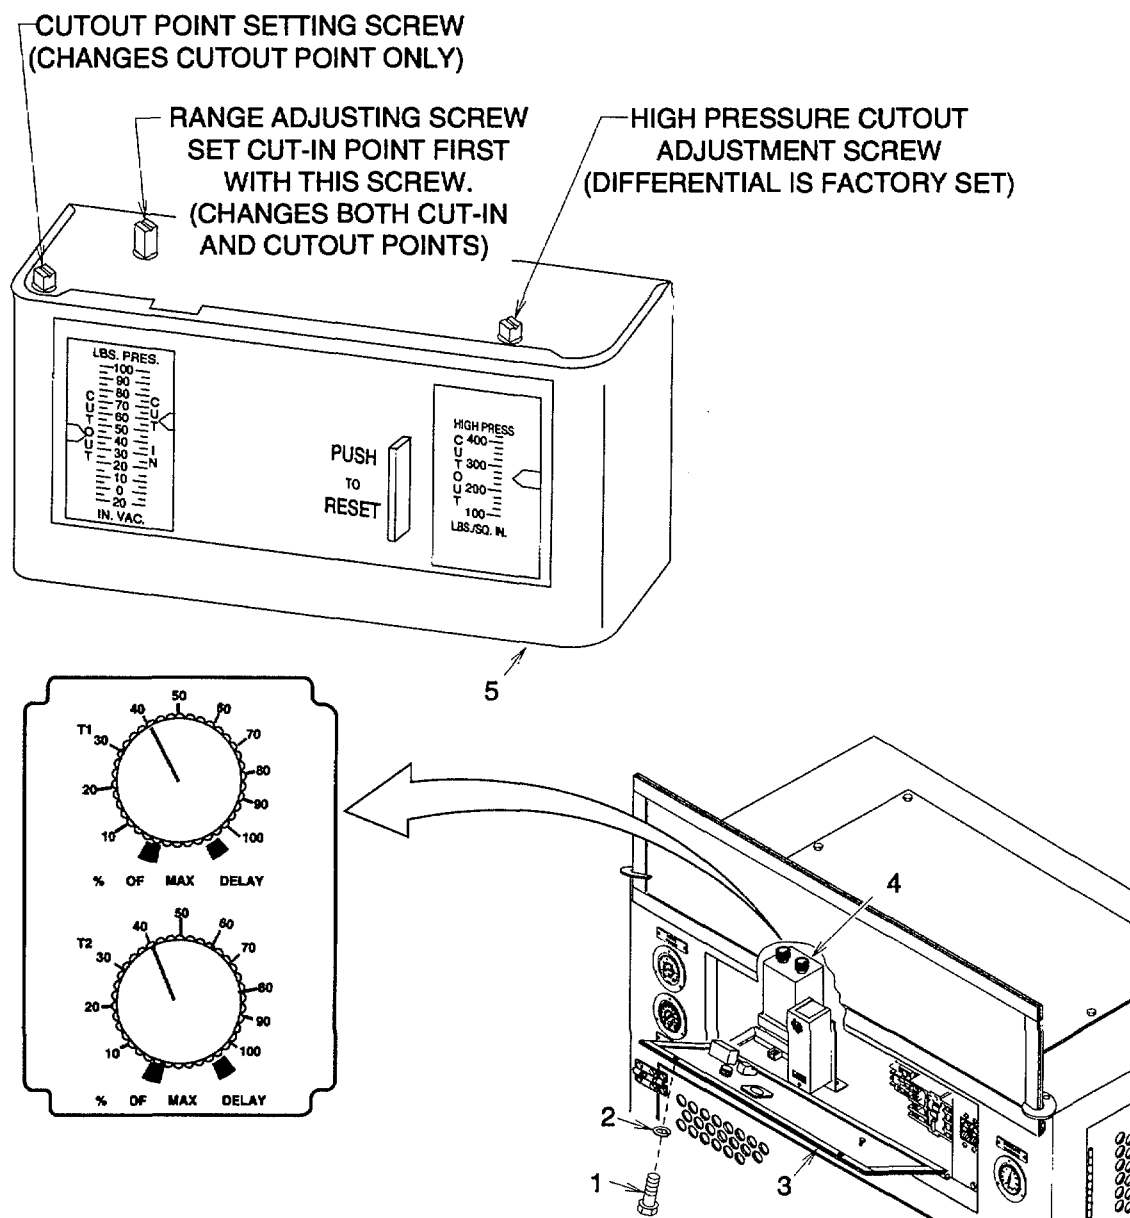

Figure 4-6. Preliminary Adjustment
- b. Remove two bolts (1, fig 4-6) and lock washers (2). Open the control panel (3). Discard lock washers